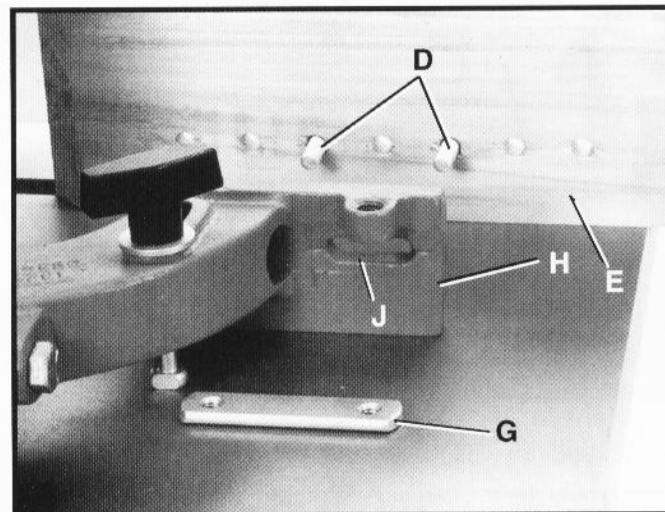

Fig. 10
3. Insert two 1-1/2" round head screws (D) Fig. 10, into two of the holes in the wooden fence (E), and thru the two slotted holes, one of which is shown at (J), in the fence casting (H). Thread the two screws (D), into the threaded holes in strap (G) Fig. 10.